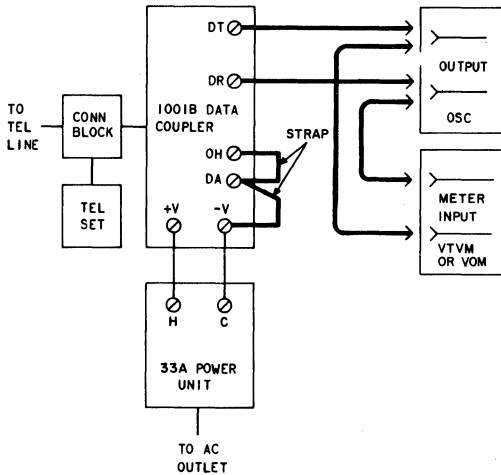

Fig. 15—Test Equipment Connections—Impedance Matching Test
- (1) Set the oscillator for a 1000-Hz frequency and a 600-ohm output impedance.
- (2) Select the proper scale on the VOM to measure -5 dBm.
- (3) Connect the test equipment and straps as shown in Fig. 15.